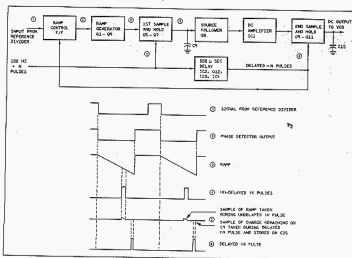

Figure 4-3. Sample and Hold Circuits, Simplified Block Diagram
circuit that is proportional to the phase relationship between the 100 Hz output of the +N Counter and the 100 Hz signal that is derived from the M.O. output. Figure 4-3 is a block diagram of the sample-and-hold circuits.
4.58 The voltage on C9 is not suitable as a control voltage for the VCO Varicap because of the sampling ripple that is present, shown on the waveforms in Figure 4-3. The delayed +N pulse therefore activates a second sampling circuit so that a sample can be taken of the charge on C9 between un-delayed +N pulses.